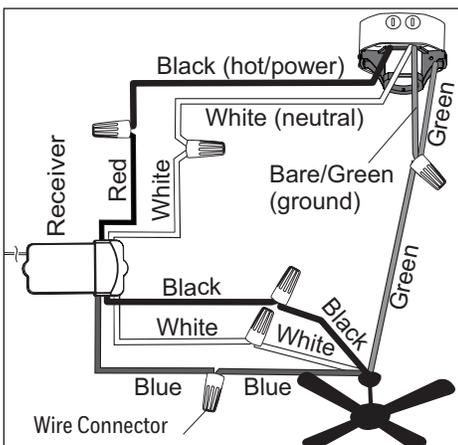

Figure 5.1
- Use wire connectors to connect the fan wires and the receiver wires to the household supply wires according to the wiring diagram and the following instructions (Figure 5.1):